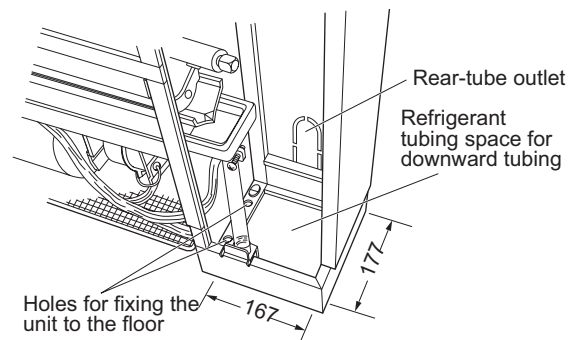

Fig. 2-236
- When a downward tube is required, refer to the opening dimensions shown in Fig. 2-236.